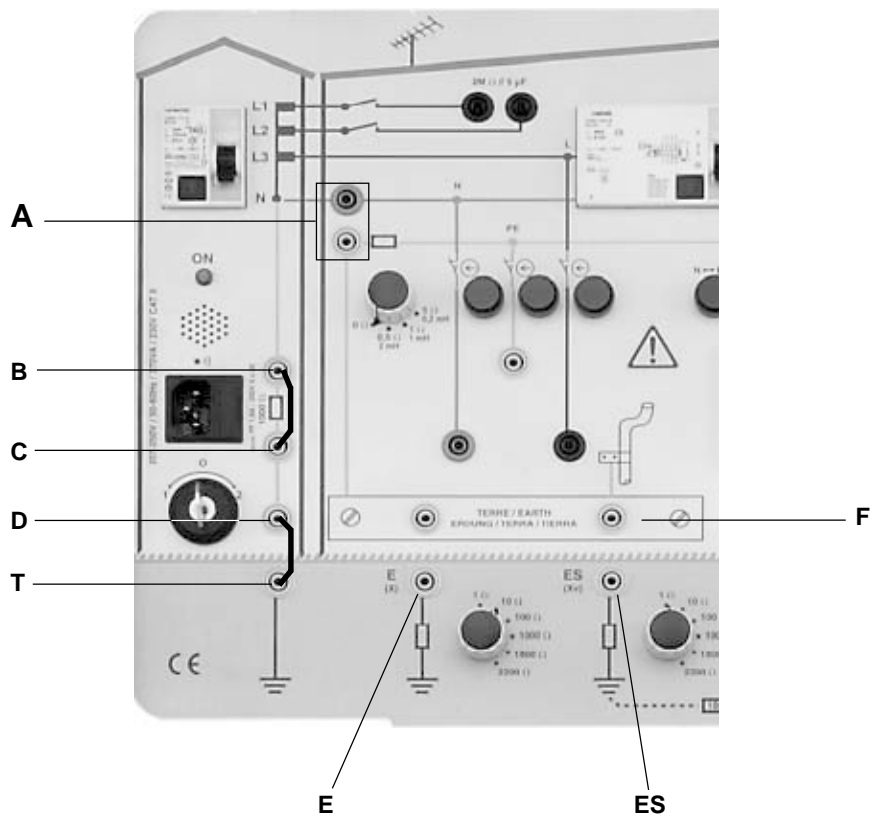

Figure 2
**Connections** (see figure 2):
### Connections (see figure 2):